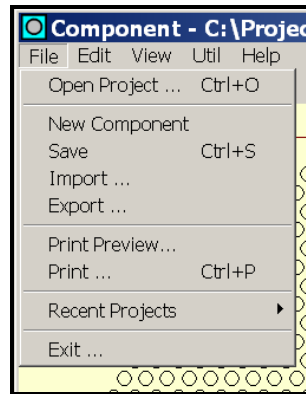

Figure 3. File Menu
| Figure 3. File Menu..... | 4 |
As shown in Figure 3, the **File** menu contains nine (9) choices. Each item is discussed below.